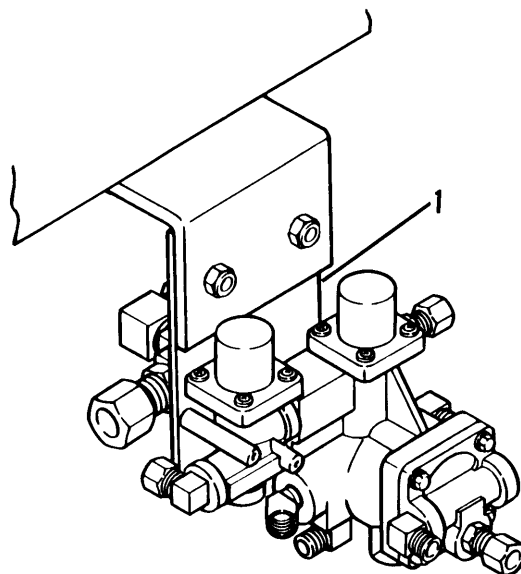

Figure 4-25. Multi-Function Valve (14871A1)
j. Multi-Function Valve. The multi-function valve (1, fig. 4-25) is mounted on the semitrailer frame and controls the brake chambers by utilizing both air reservoirs for normal service braking, but reserving sufficient air pressure to provide the required spring brake chamber release in the event of a system failure.